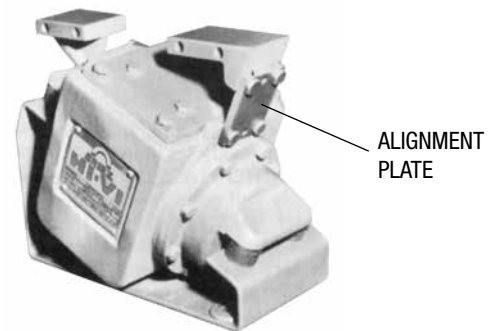

FIGURE 10
1. Attach the rear section of the tiebar to the body casting, using the alignment plate in place of the tuning springs. This puts the two sections of the tiebar into proper dimensional relationship (see Figure 10).